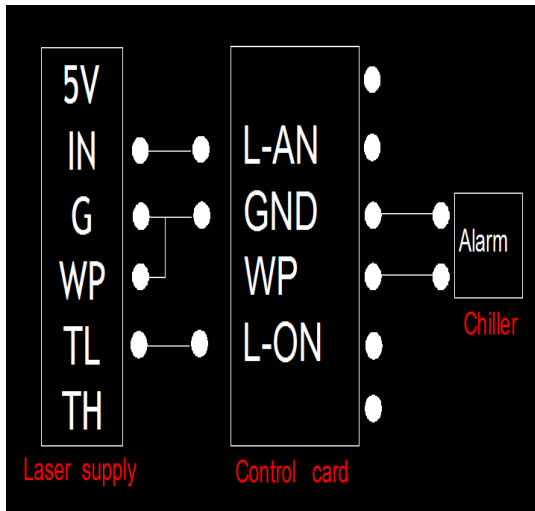
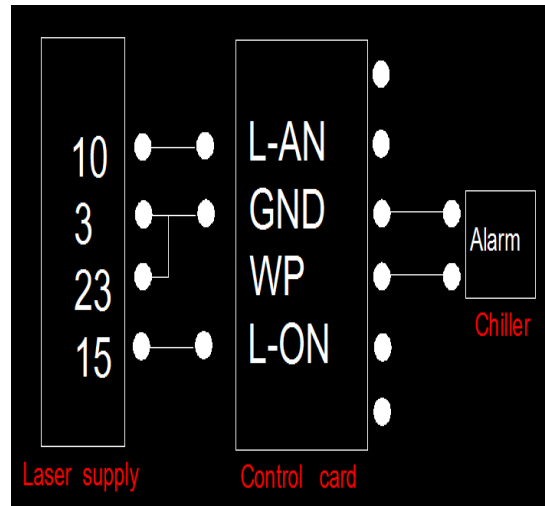

Figure 11
Figure 12
- a. 6P type laser control board, low-level is active as an example (as shown in Figure 11); 25P type (except for Dingxin power supply connected to the Ruida board) is connected to the laser control board (as shown in Figure 12), and 25P needs to be set Active high.